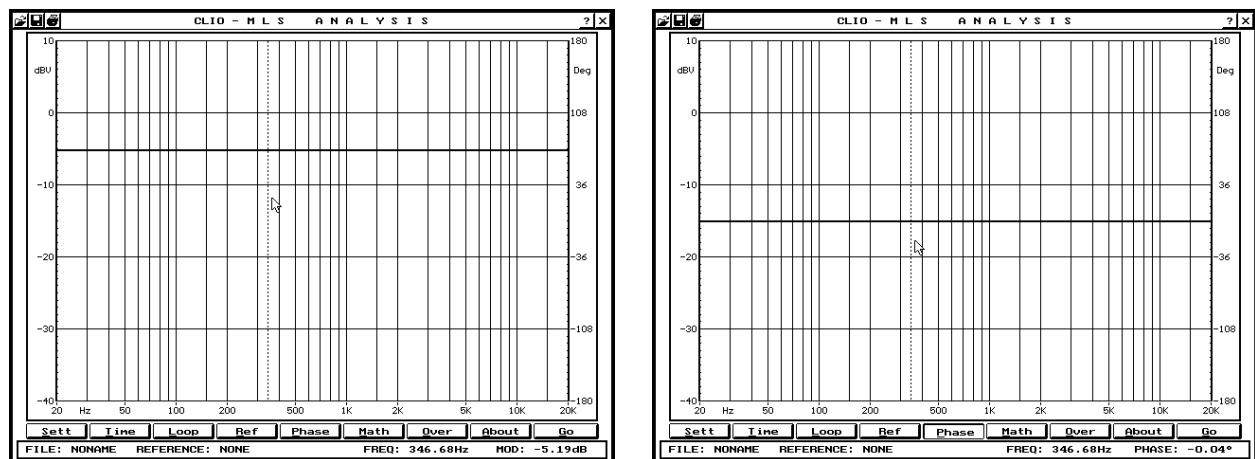

FIGURE 7.8 – MLS calibration check
B) Enter the MLS Analyze control panel; press “G” and execute a measurement; a flat line in both the amplitude measurement and the phase should be obtained, as shown in Fig. 7.8 (with a resolution in amplitude of 50 dB). If the line is not perfectly flat, those results which give a line that varies by no more than  $\pm 1$  pixel may be considered a correct calibration.